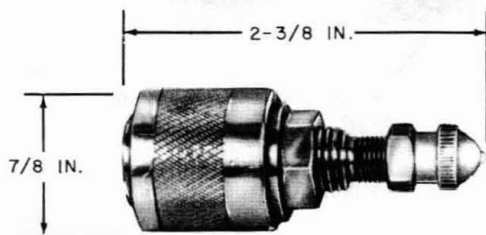

Fig. 11—B Pipe Seal
5.07 Before placing CA-3131 air feeder pipe in conduit, place B pipe seals (Fig. 11 and 12) on the pipe ends, repressurize the pipe, and place a 3/4-inch cable grip over the pulling end as follows: